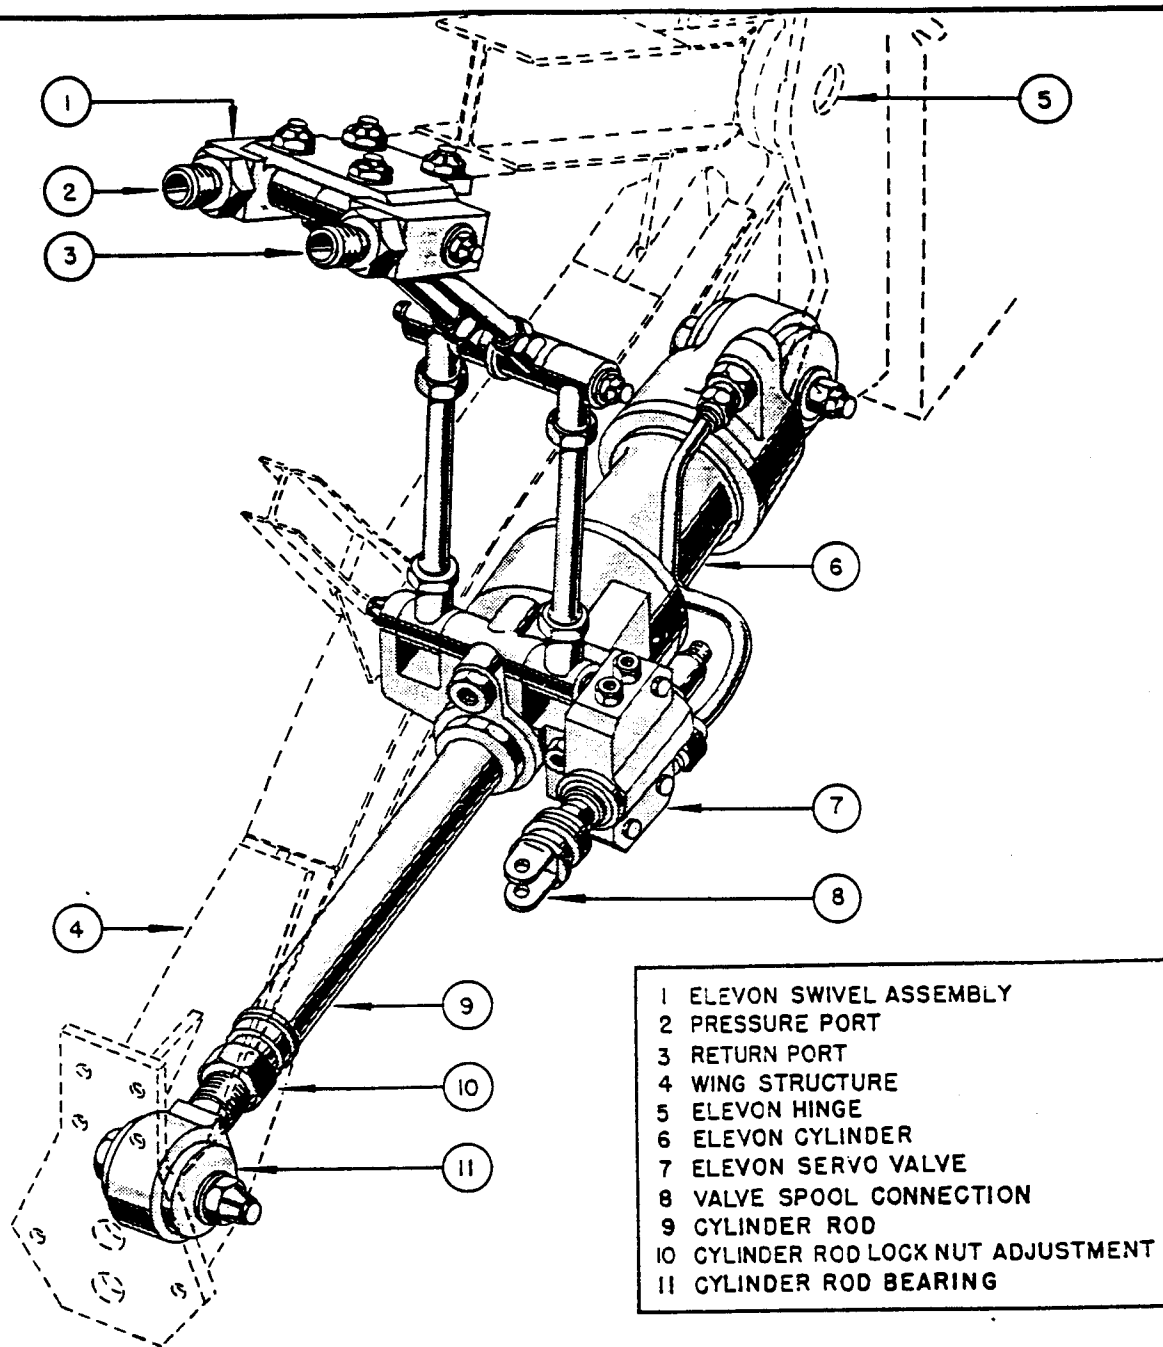

Figure 26. Elevon Actuating Mechanism
2. The inboard elevon-actuating cylinders are located in the trailing edge of the wing section outboard of engines number one and four. The outboard cylinders are located in the trailing edge of the wing section at the outboard ends of the elevons. The two cylinders for each elevon are mounted in brackets, one on the rear wing spar, the other attached to the elevon. See figure 26.